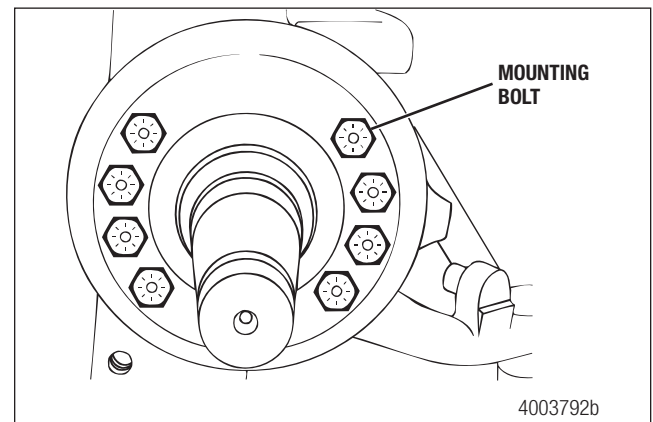

Figure 4.8
5. Remove the torque plate-to-axle mounting bolts. Figure 4.8.